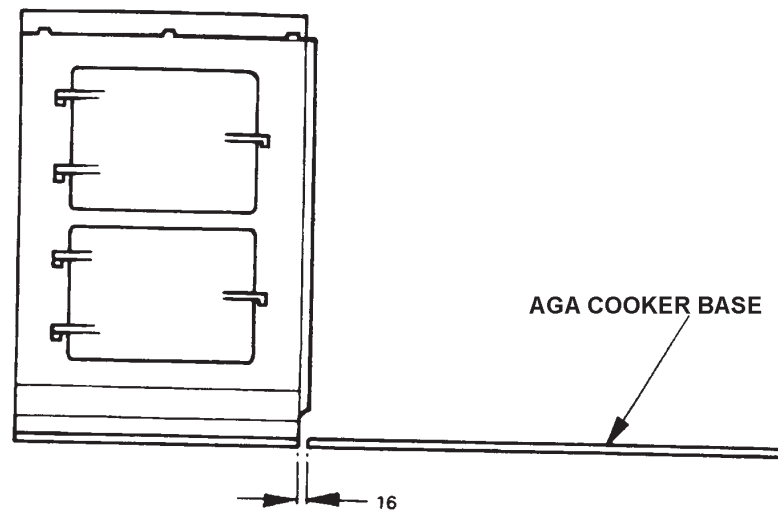

Fig. 8
8. Place the hotcupboard unit into position alongside the main Aga baseplate, carefully feeding the gas supply pipe through the appropriate holes, and ensuring that a 16mm gap is left between the two bases. (See Fig. 8).